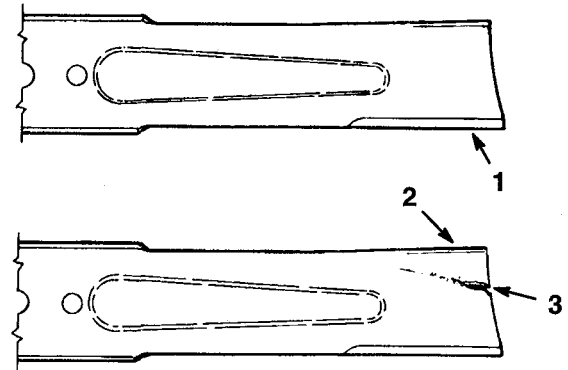

Figure 30
2. Inspect the cutting edges (Fig. 30). If the edges are not sharp or have nicks, remove the blade(s) and sharpen them; refer to Sharpening the Blade(s), page 33.
3. Inspect the blade(s), especially the curved area (Fig. 30). If you notice any damage, wear, or a slot forming in this area (Fig. 30), immediately install a new blade.